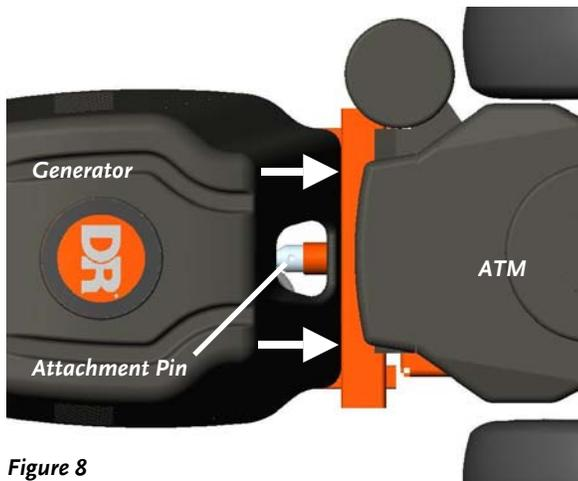

Figure 8
1. With the help of another person to steady the ATM power unit; line up the GENERATOR ATTACHMENT with the ATM Attachment Pin and slide the Generator onto the Pin (**Figure 8**).